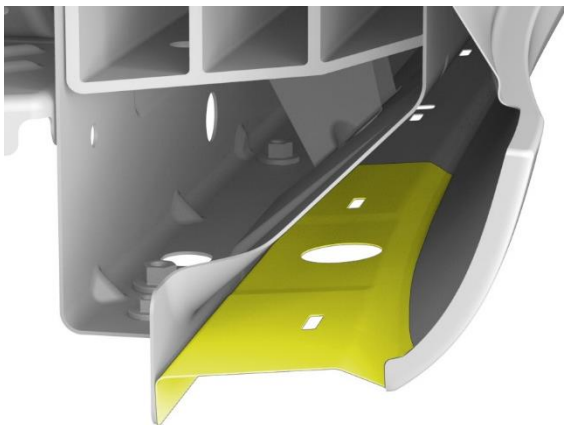

Figure 3 (Acceptable repair area)
- If there is structural or paint damage only to the body side outer (Figure 3), continue this procedure.